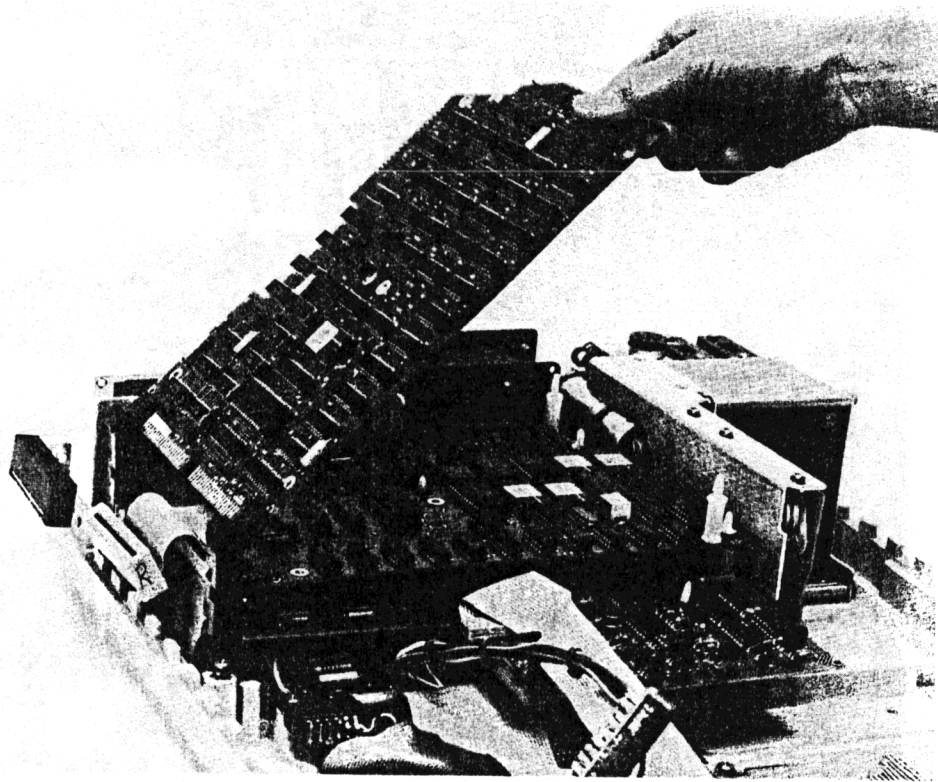

Figure 2-17 Removing a Read/Write Memory Assembly
- Rotate the assembly upward to an angle of approximately 45 degrees as shown in Figure 2-17.